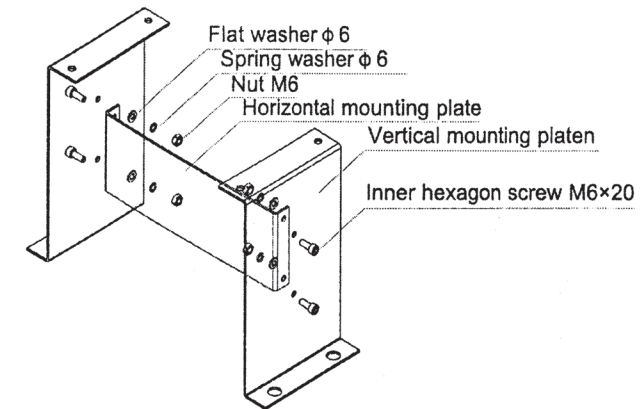

Figure 5
- If select the detachable mounting base, the base should be assembled first as shown in Figure 5;